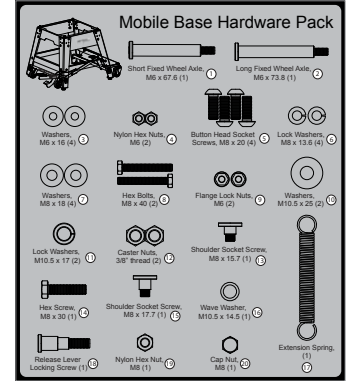

Fig. 1
1. Locate all of the mobile base components shown on page 1. All of the hardware needed to install the mobile base is located on the mobile base hardware pack (see Fig. 1). In order to easily identify the hardware used in each of the following steps, the different pieces of hardware are numbered on the hardware pack and in the figures. If you are missing the hardware pack or any of the other mobile base components, call the SawStop Service Department at 503-582-9934 for replacements.